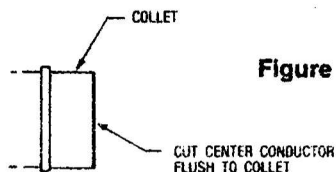

Figure 6.
- Cut the center conductor flush to the flared end with a hacksaw. Remove all burrs from the cut center conductor and make sure no metal chips enter the cable. See Figure 6.